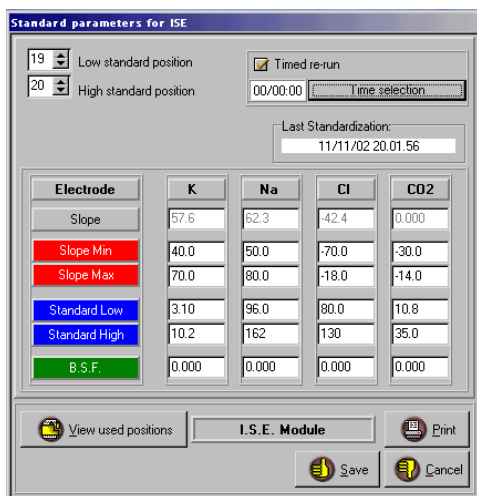

Figure 4
INSERTING STANDARDS: Go to the **Global list** or the **Current Tray list**. Select **ISE**, and then click **Standards** to display the **Standard parameters for ISE** (Figure 4). Standards programming (automatic or on request) follows the same procedure of Clinical Chemistry (Chapter C, paragraph 1.5. Calibrations). For system calibration, two known standards (Low and High) are required.
d) Verify that programmed values for the standards (high level/low level) correspond to the used lot. Programming is performed as shown in **Figure 4**, where the values for two standards must be entered for the calculation of slope during the calibration.